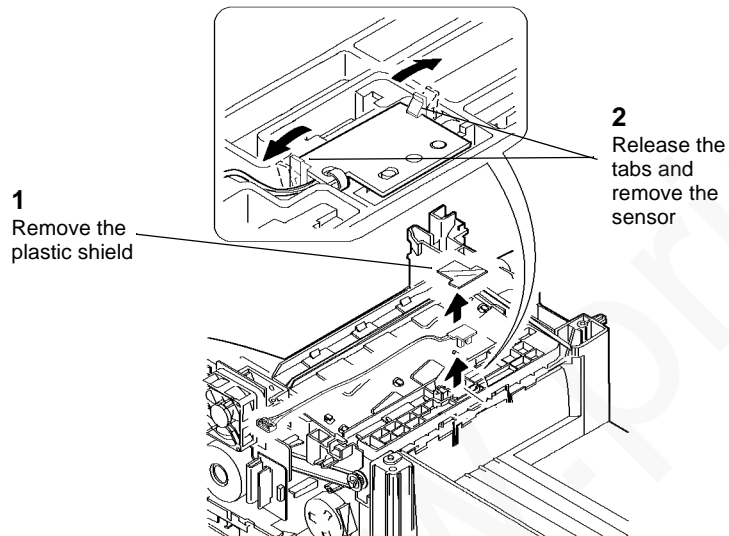

Figure 1 Removing the Exit Sensor
2. (Figure 1): Remove the Exit Sensor.